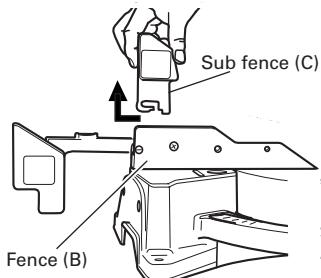

Fig. 13
In the case of left bevel angle cutting, remove the sub fence (C) by sliding to the side and removing from the top as shown in Fig. 13.